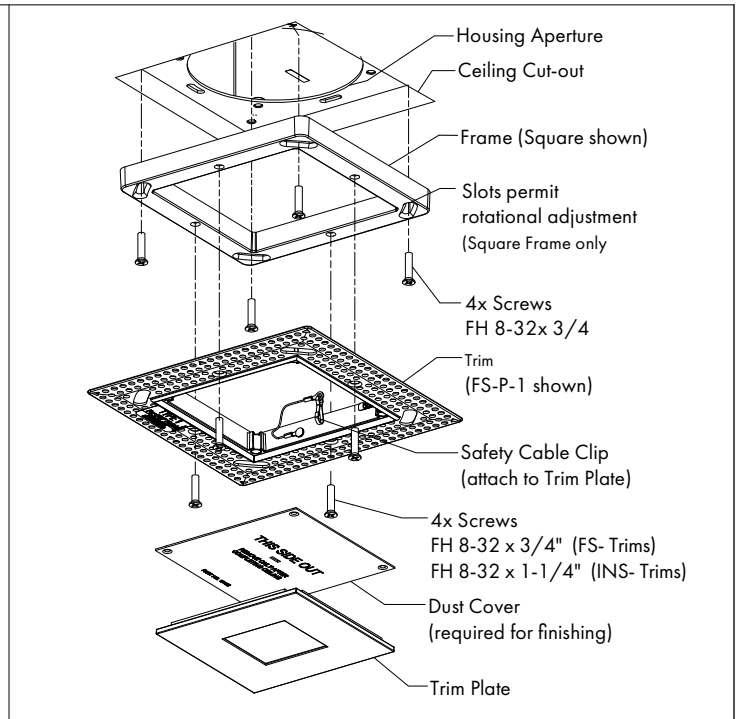

FIG 3.2 Frame & Trim Installation (for Single & Multi-Lamp)
- STEP 1** Install USG "Imperial" or equivalent ceiling board (drywall/sheetrock) with cutouts positioned under housing apertures. Finish with one coat of USG sheetrock or equivalent wall covering primer. **Note:** Black frame (round or square) can be installed before or after ceiling board installation - **FIG 3.2**.
- STEP 3** Install Dust Cover - **FIG 3.2 & 3.4**.